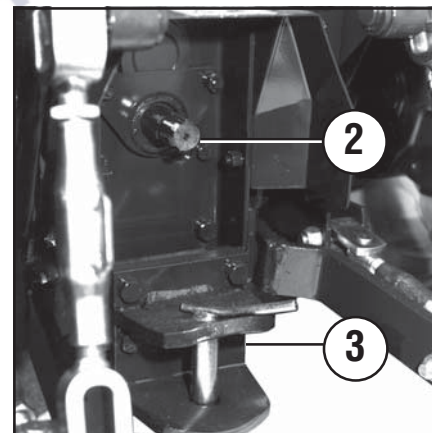
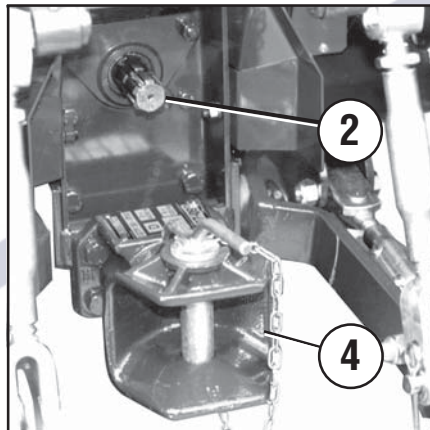

Fig. 8
Fig. 9
- On the rear, for towing trailers and equipment, fixed pin type (3 Fig. 8), or CBM tow-hook (4 Fig. 9). The latter hook differs from the standard rigid hook because it can rotate on its longitudinal axis.